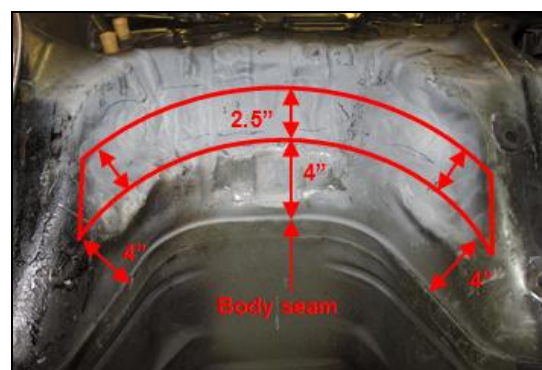

Figure 5
13. Using a 3-4lb hammer, drive the transmission tunnel sheet metal inward, 4" forward of the body seam and within the red perimeter indicated in Figure 5, to provide additional clearance for the swap transmission. The required depth of the deformation will be approximately 3/4" - 1".